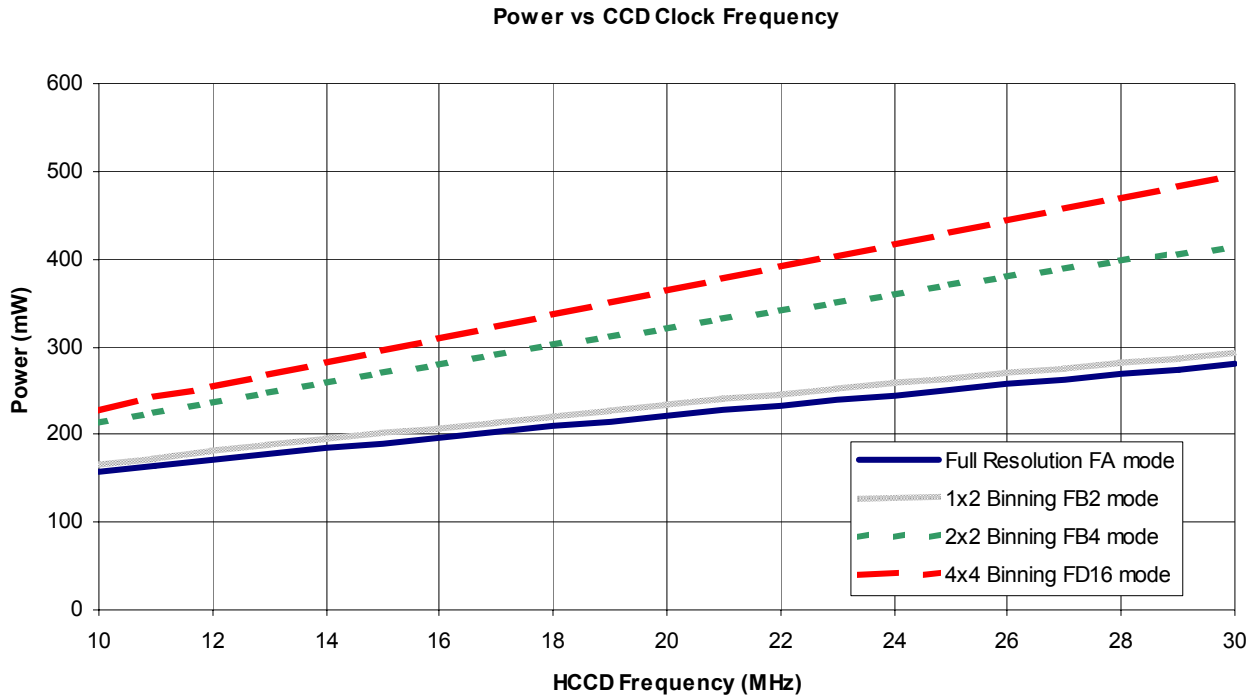

Figure 8: Power vs. Clock Rate
1. An output load sink must be applied to VOUT to activate output amplifier. See figure 8
2. VESD should tie directly to Vertical Low (VL) clock driver bias level.